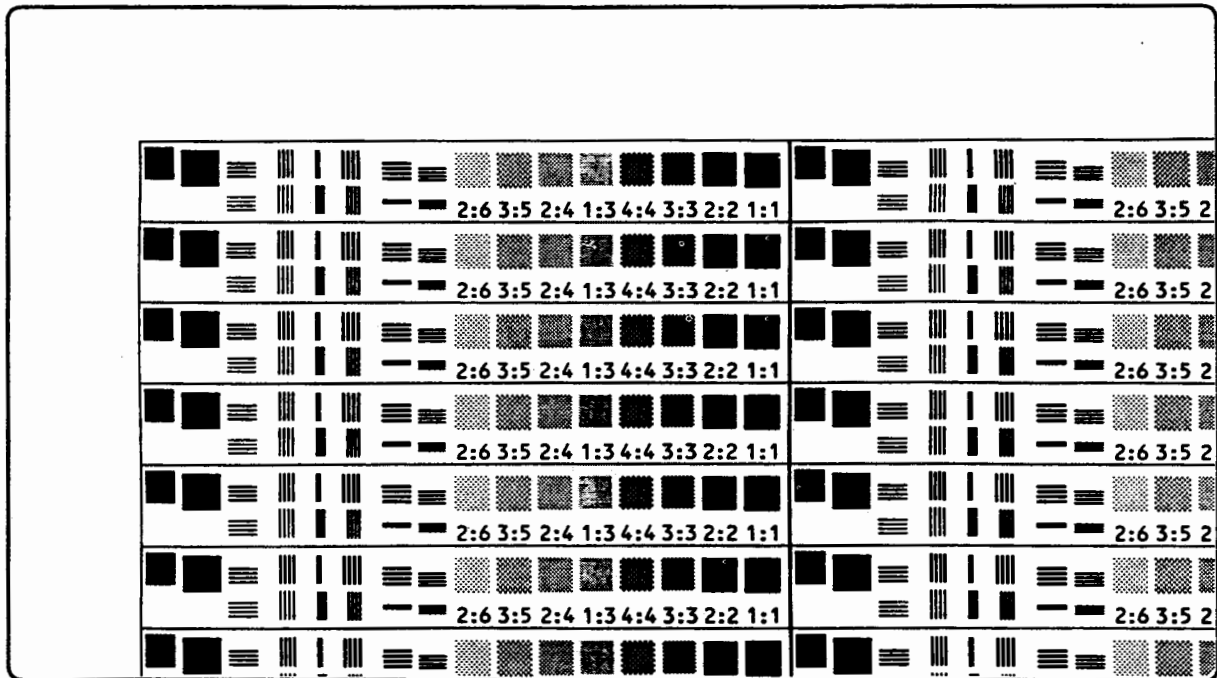

Figure 3-11. Portion of Service Mode Self Test
2. For both printers, holding down the **PRINT FONTS/TEST** key until 05 SELF TEST is displayed (about two seconds) causes the formatter to first perform a self test. During the printing portion, 06 PRINTING TEST (localized for HP 33449) is displayed and a Service Mode self-test printout is produced. The printer will then again display SERVICE MODE. Figure 3-11 shows a sample of the Service Mode self-test print.